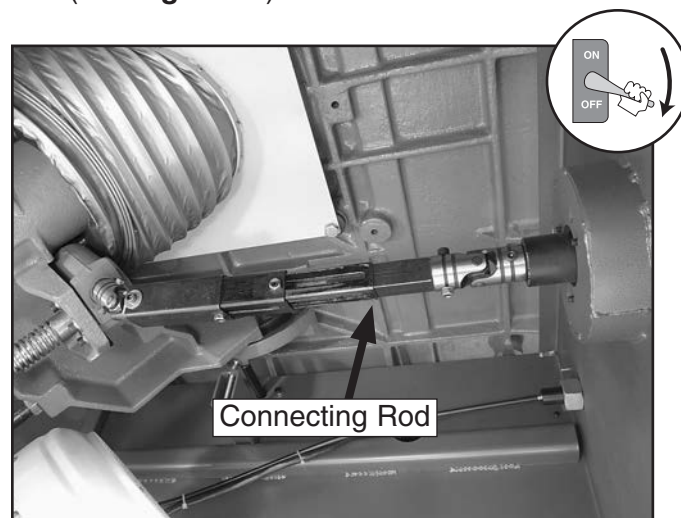

Figure 47. Spindle elevation connecting rod (accessed through the shaper front door).
2. Tilt the spindle to +45° and access the connecting rod through the shaper front door (see **Figure 47**).